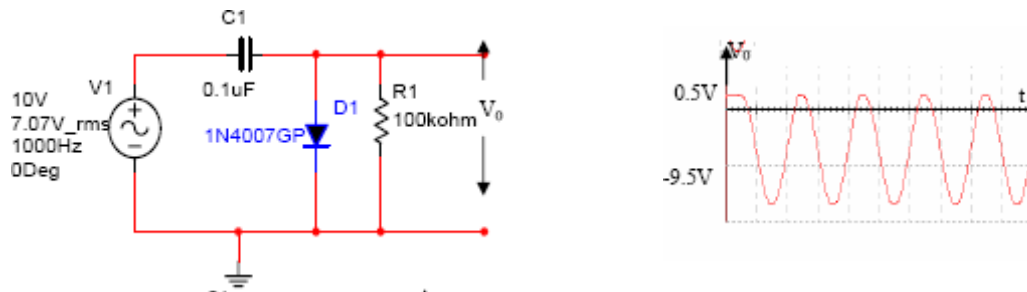

Fig.3.1 Negative clamping with zero reference voltage
1. Connect the circuit as shown in the figure 3.1 below.